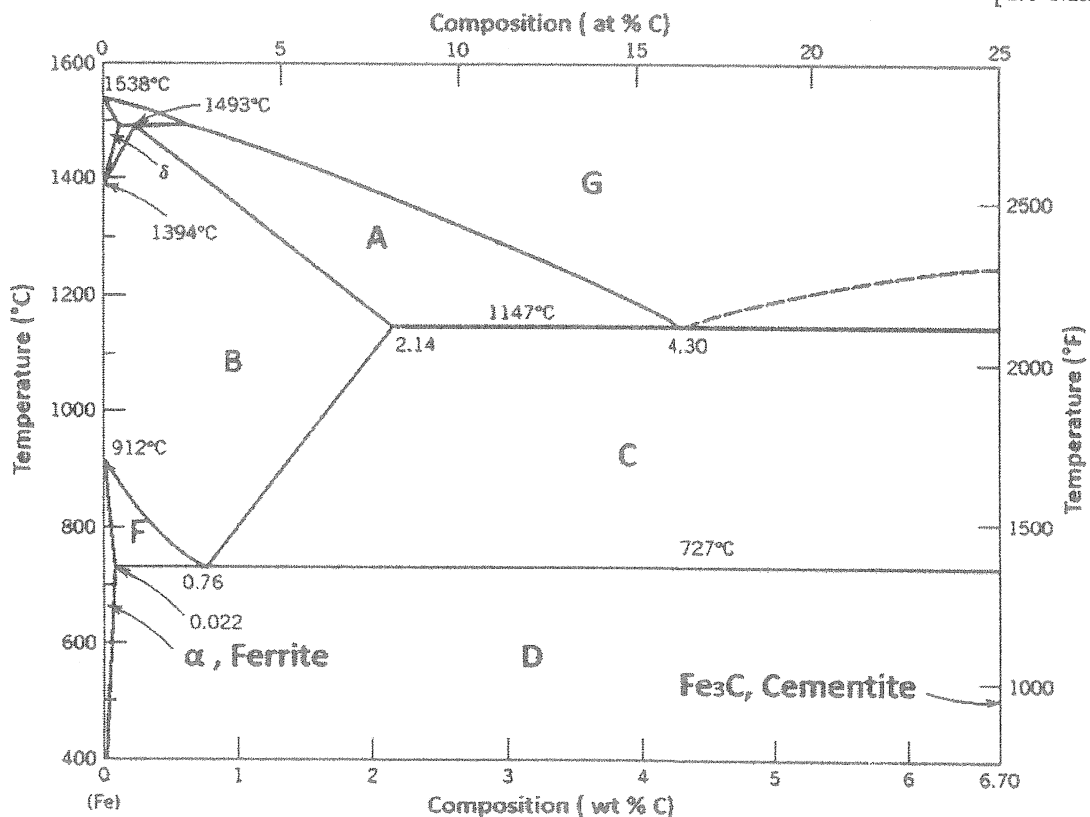

Figure Q4
Q4. Study of the constitution and structure of all steels and irons must first start with the Iron- Iron carbide equilibrium diagram as shown in Figure Q4.
b) Name the phase regions marked as A, B, C, D, F and G in Figure Q4.